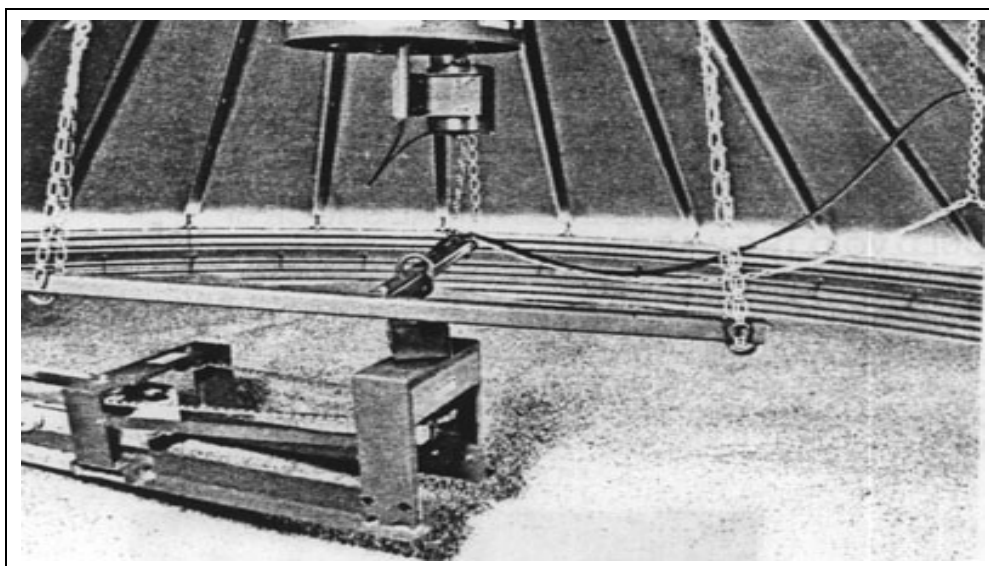

Figure 4AL
30. Be sure center suspension tee is as near level as possible and is at a 90° angle to the switch box so the automatic shut off chain operates properly. It is necessary that the suspension tee be positioned with "S" hook being placed to the right, when viewed from the switch box. See picture of the bin in the Table of Contents or Figure 4B on Page 16 and Figure 4AL.
31. Check to be sure the shut off hook end of the suspension tube is located 90° to the switch box. If not, reposition the suspension chain hooks around the center fill hole. Attach the link end of the shut off chain to the "S" hook which is welded on to the suspension tube. (See Figure 4B on Page 16.) Hook the other end to the "S" hook on the switch box handle. Re-hook the excess chain with "S" hook attached to the shut off chain so that it will not get caught on the unit. (See Figure 4AM on Page 32.) Use the shut off support chain(s) to hold the shut off chain so that there is adequate clearance between the shut off chain and the Red Giant as it travels underneath. (See Page 36 and Page 40.) Remove the wire support "S" hook which is banded to the hook attached to the chain end with a plastic tie strap. Loop the support chain under shut off chain lifting it for clearance and hook to main strand. (See Figure 4AN on Page 32.)